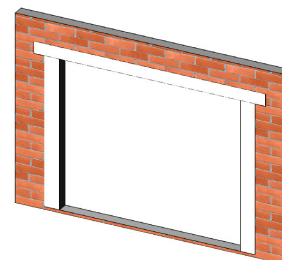

Figure 13:
- At the Head run the flashing paper long enough to extend at least 3" past the jamb flashing and wrap around the Header at least 3" into the opening (Figure 13).